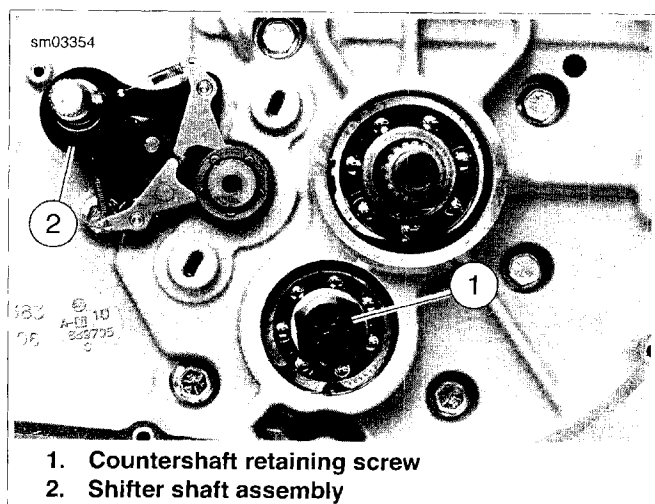

Figure 5-49. Countershaft Retaining Screw
7. See Figure 5-49. Place transmission in 1st gear. Remove countershaft retaining screw (1).